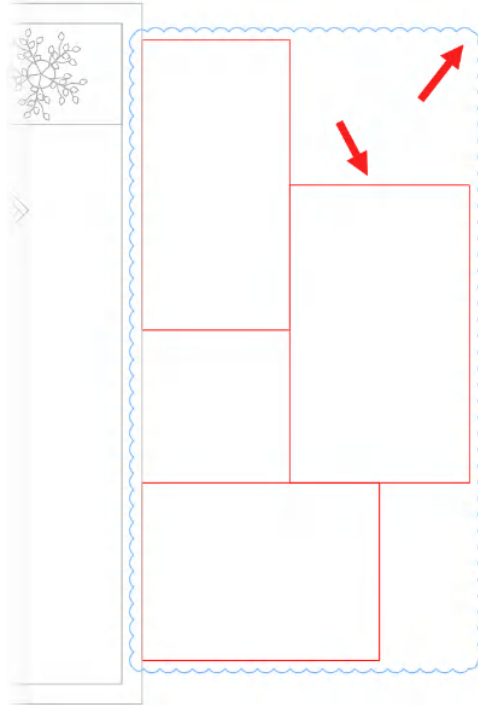

Figure 14.7: Clouded objects not in the current DWG file
6. Now that the cloud color has been changed, you can make a clearer comparison between the two DWG files. Anything displaying a revision cloud shows a difference between the two drawing files. Objects shown in red are not in the current drawing, and anything shown in green is specific to the current drawing. *Figure 14.7* shows objects that are not in the current drawing.